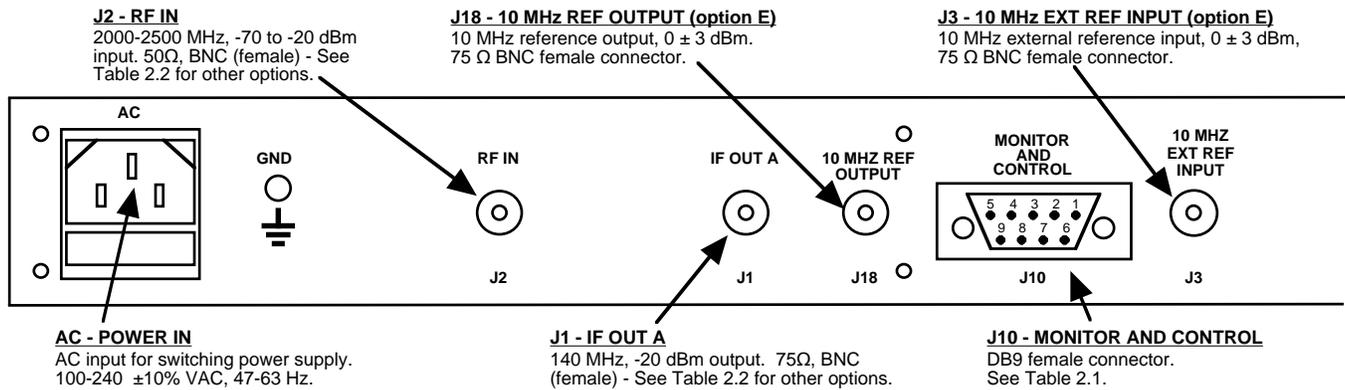

FIGURE 2.2 2016-26 Downconverter Rear Panel Inputs/Outputs
2.2 Rear Panel Input/Output Signals - Figure 2.2 shows the input and output connectors on the rear panel.
1. Connect a -20 dBm to -140 dBm signal to RF In, J2 (Figure 2.2)
Alarm indications appear on the LEDs (see figure 2.2).